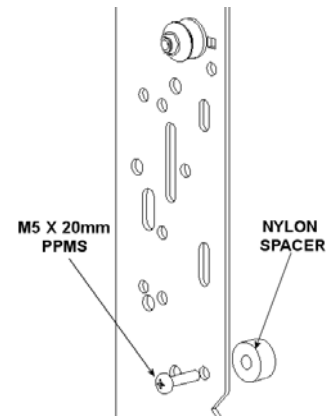
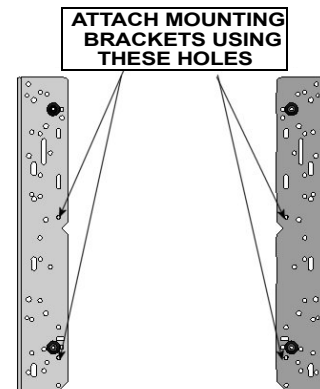

Figure 32. Spacer Installation for Group 11
Figure 33. Spacer Location for Group 11
3. Place the four Nylon spacers over the mounting holes on your Large Flat Panel display (see Figure 32).
4. Place the interface brackets over the Nylon spacers (see Figure 32 and Figure 33).
6. Using the hardware in parts bag F, secure the interface brackets to your Large Flat Panel display (see Figure 32 and Figure 33). Do not overtighten the mounting screws.